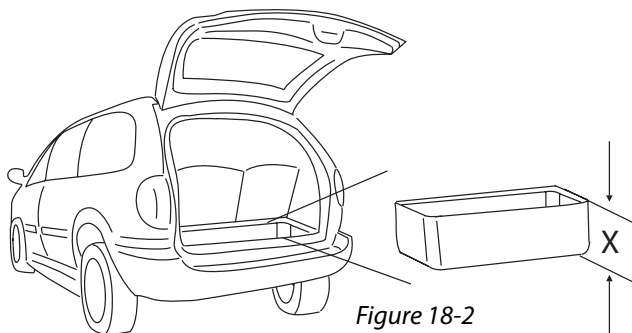

Figure 18-2
2. Measure the height of the well. [Figure 18-2]